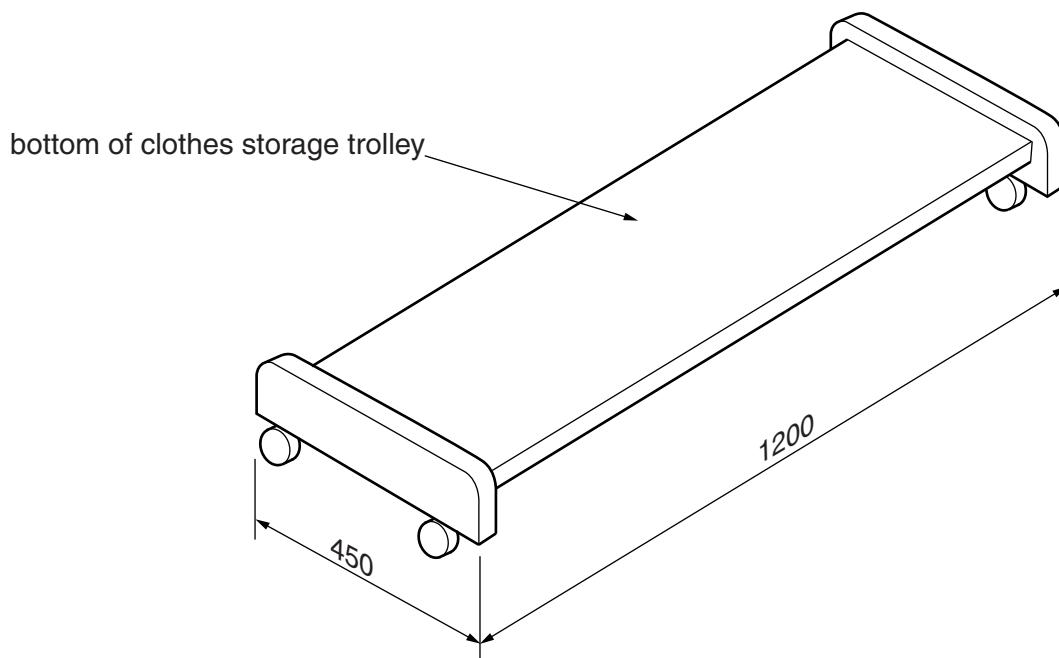

Fig. 8
- 8 Fig. 8 shows an incomplete idea for a mobile clothes storage trolley to be used at a p...